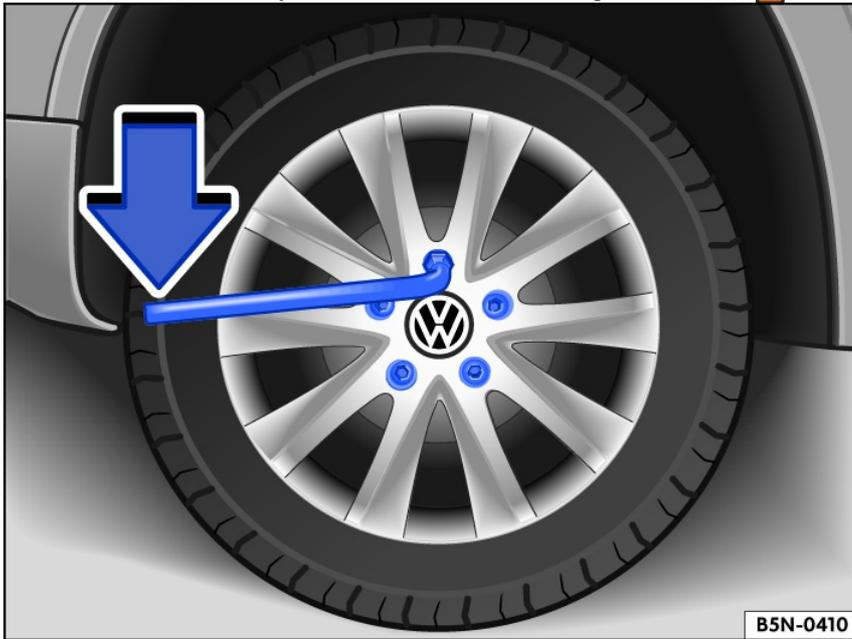

Fig. 207 Changing a tire: loosening the wheel bolts.
- Slide the lug wrench all the way onto the wheel bolt fig. 207.